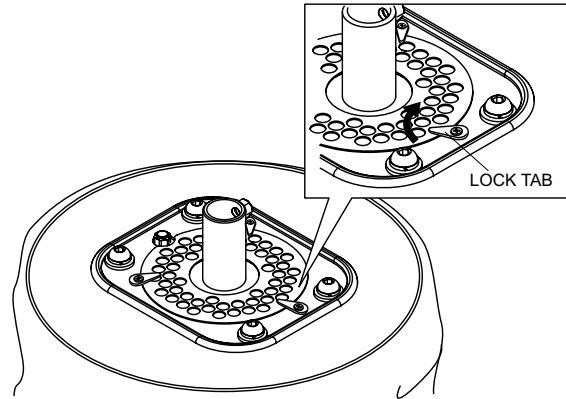

Figure 37. Locking Air Plate
6. Turn the three locking tabs inwards to lock the air plate in place. See Figure 37.